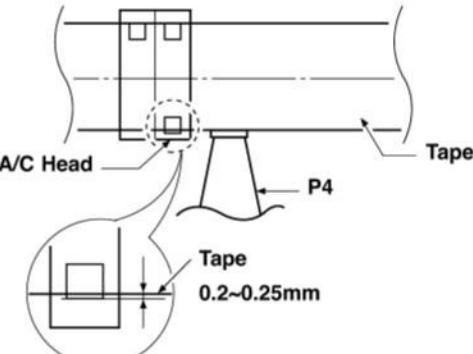

Fig. C-5-3
- 3) Where the tape bottom is not equal to Fig. C-5-3, Adjust the height by using the height adjusting screw (B) and then readjust it by using the tilt adjusting screw (C).